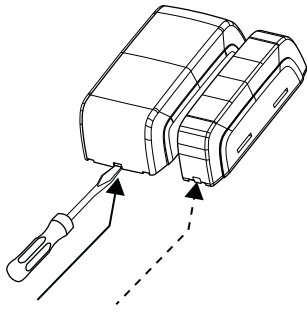

Figure 2 - Decorative cover removal
1. Insert a flat-head screwdriver into the slot provided and push upward to remove the decorative cover, as in Fig. 2.